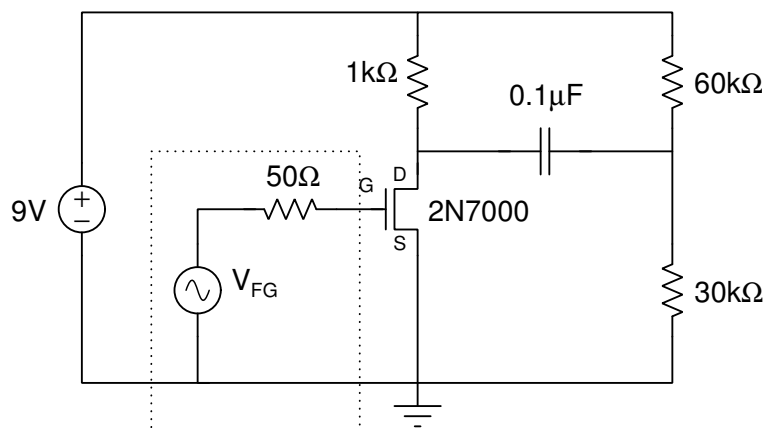

Figure 3: Multivibrator half-circuit to build.
1. Build the multivibrator half-circuit circuit shown in Figure 3.